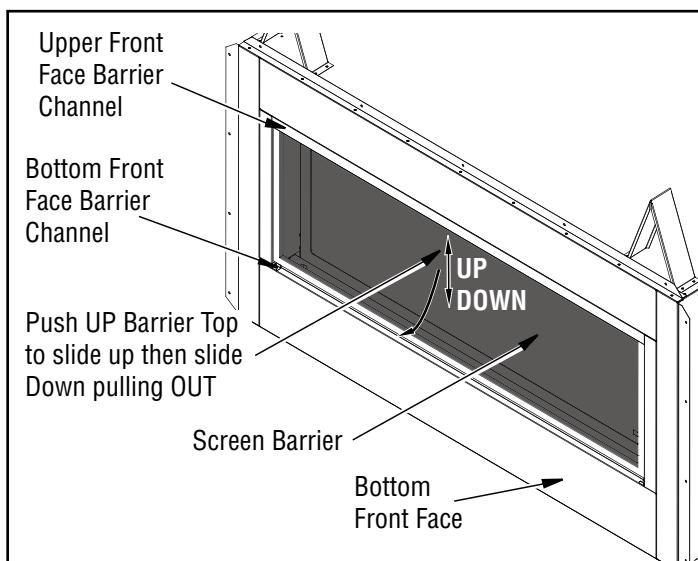

Figure 34 - Removing/Replace Barrier
1. To remove barrier, push barrier top up to slide it up then slide down pulling barrier out (*see Figure 34*).
2. Install the barrier by sliding in into the top channel with the flat side toward the fireplace, then swinging the base of the barrier into the bottom channel and lowering it into place (*see Figure 34*).